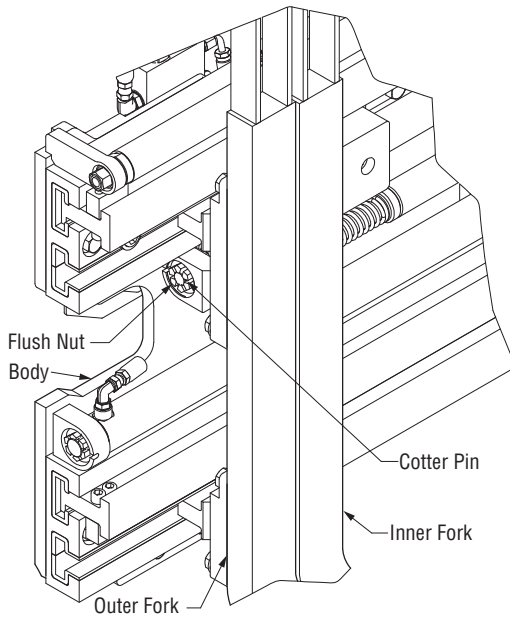

Figure 6-2, Outer Fork Removal
1. Remove inner forks (Section 5.4). Remove the cotter pin retaining the flush nut. Remove the flush nut. (Figure 6-2)